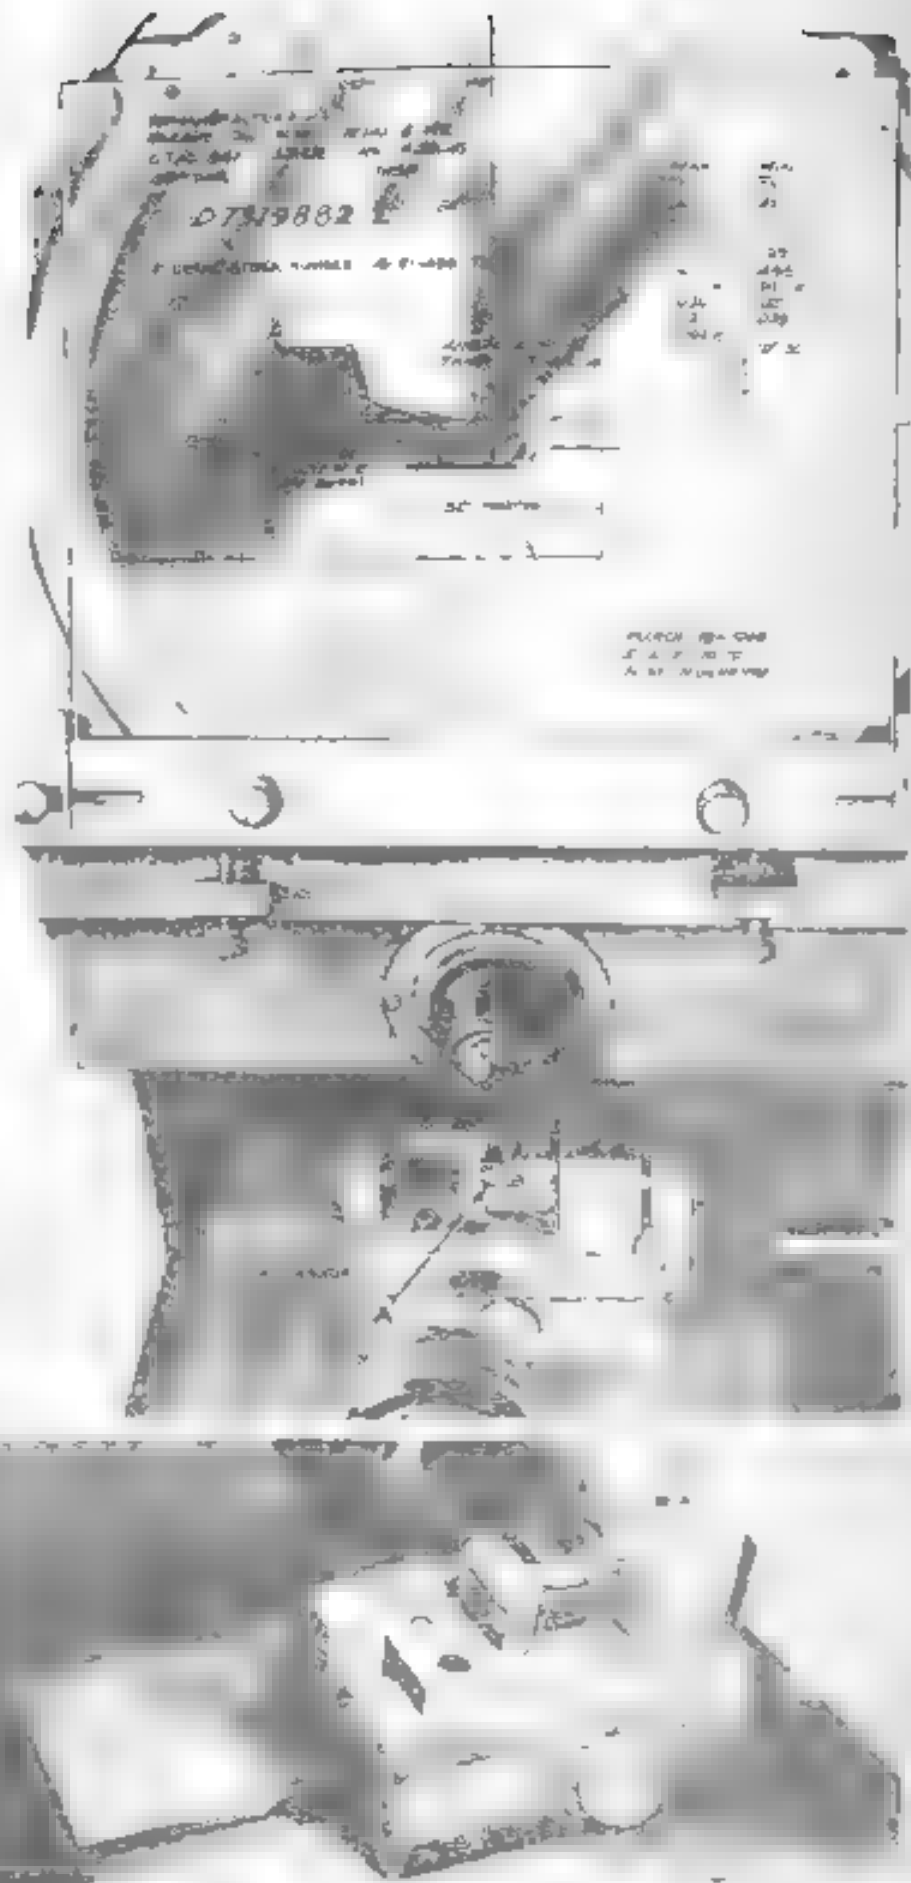

Figure 124. Screen and fixture with sear—slide in position 1—to right
- (1) Place the sear in the proper position on the staging fixture 7319882 (fig. 11) exactly as shown in figure 124.
- (a) Move the lever, which is in the slot in the fixture slide (fig. 124), to the right against the tension of the spring.
- (b) Place the sear against the face of the fixture and hold it in this position. Release the lever and allow the spring to push the face of the holding bar against the projection (fig. 124).
- (2) On a satisfactory sear, the shadow of the contour being inspected will fall within the limiting lines and conform to the other tolerances specified on the chart. Figure 124 shows the shadow and limits for comparison inspection of only those sections of the sear which are indicated by highlighting.
- (4) Remove the inspected sear, replace with another and inspect as described above.
- (5) Move slide to the right (fig. 124) and inspect as described above.